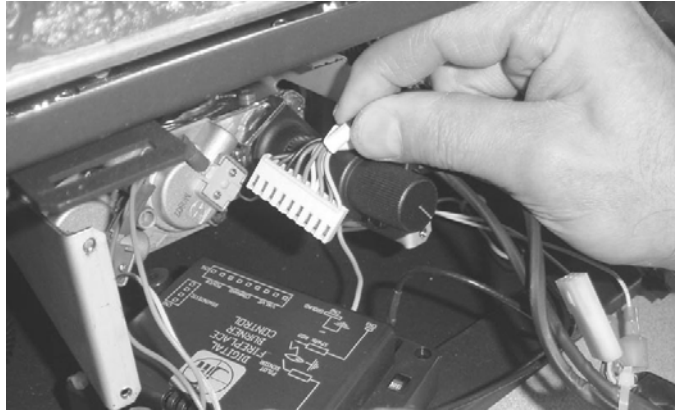

Figure 6
- 6 Disconnect the burner control connector from the fireplace burner control (see Figure 6).